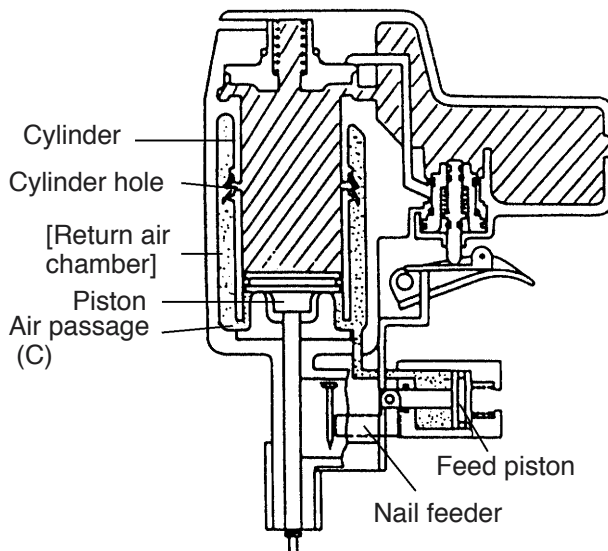

Fig. 8 During nailing (II)
(3) During nailing (II) (See Fig. 8.)